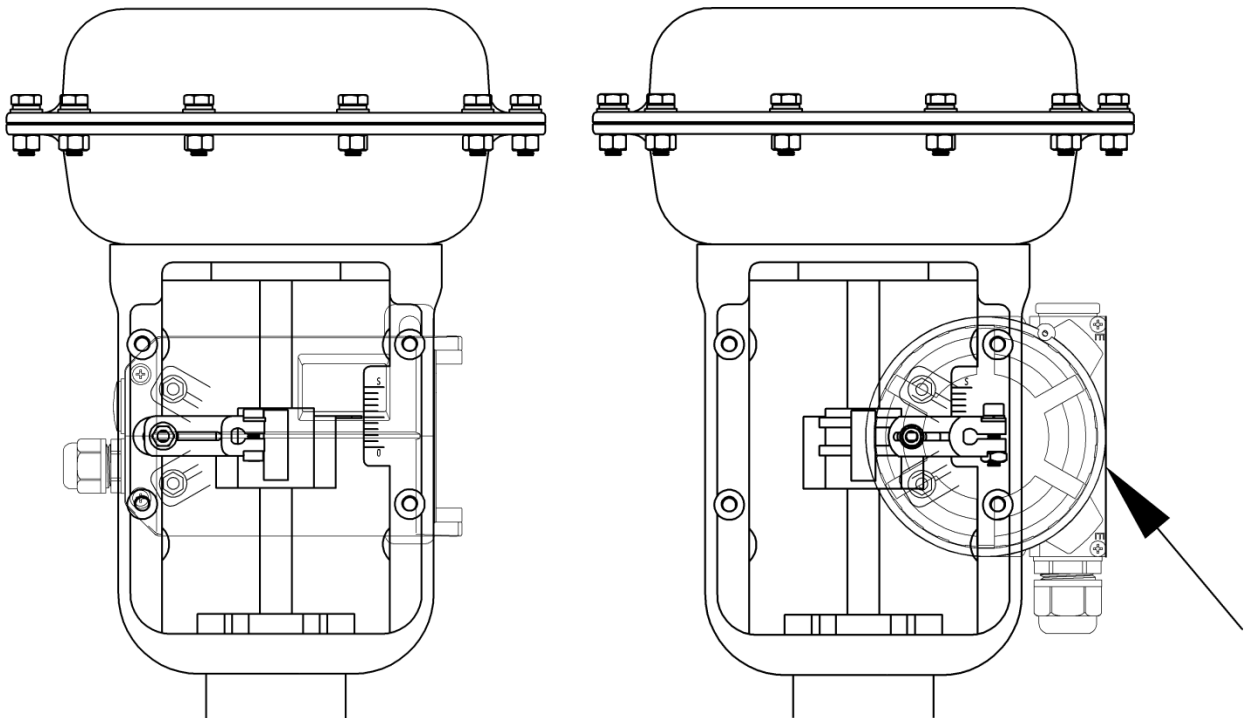
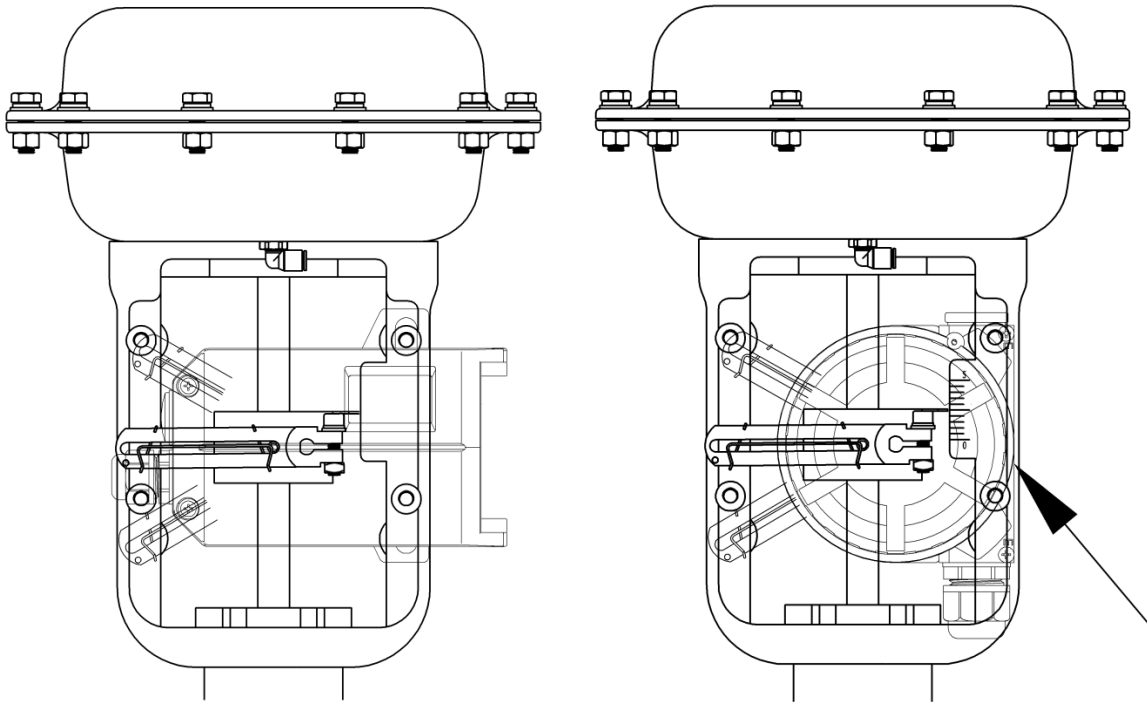

Figure 22. Installation with actuator (Feedback lever A)
Figure 23. Installation with actuator (Feedback lever B)
- For the positioner of normal linear type, make the upper plane of the positioner housing at a right angle to the main stem of the valve. For the positioner of remote linear type, make the plane indicated by the arrow (on the right side of Figure 22 and Figure 23) on the sensor housing and the main stem of the valve are parallel to each other. Otherwise it will affect the control accuracy. Finally, tighten the bracket with bolts.